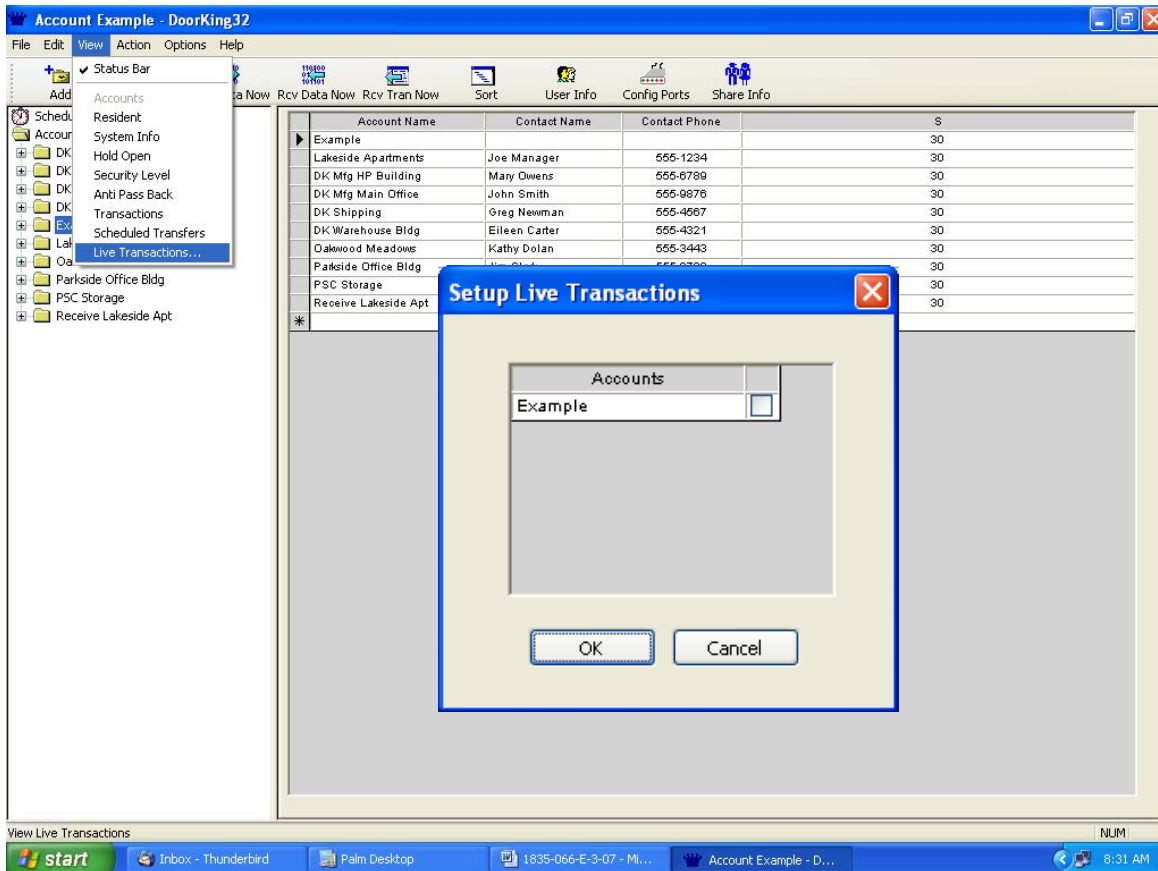

Figure 60
2. From the Setup Live Transactions window, select the account you want to view, then click OK (Fig 60).